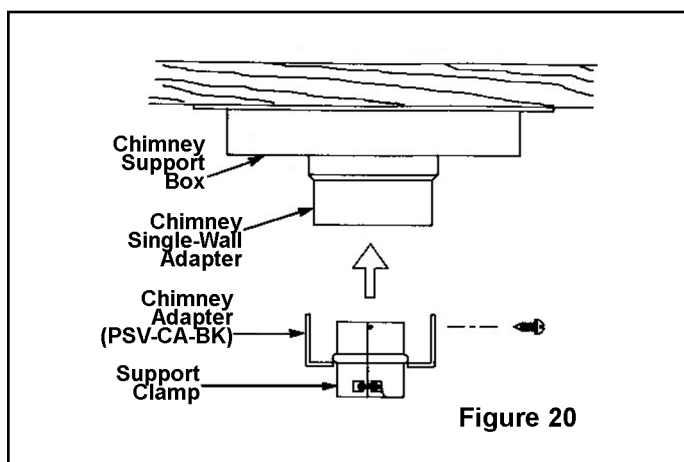

Figure 20
2. Insert the Support Clamp into the Chimney Adapter. The screw should be below and the bead above the bottom of the adapter (Figure 20).
3. Secure the Chimney Adapter (PSV-CA-BK) to the chimney single-wall adapter with the supplied sheet metal screws (Figure 20).